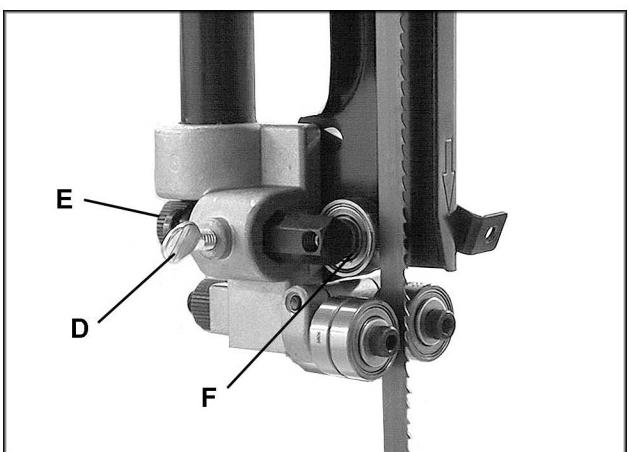

Fig. 28
5. Loosen thumb screw (D, Fig. 28) and turn knob (E, Fig. 28) to move the support bearing (F, Fig. 28) in or out until the bearing is approximately $1/64"$ behind the blade. A simple way to set this distance is to place a piece of paper or a dollar bill between the support bearing and the blade.
6. Tighten thumb screw (D, Fig. 28).